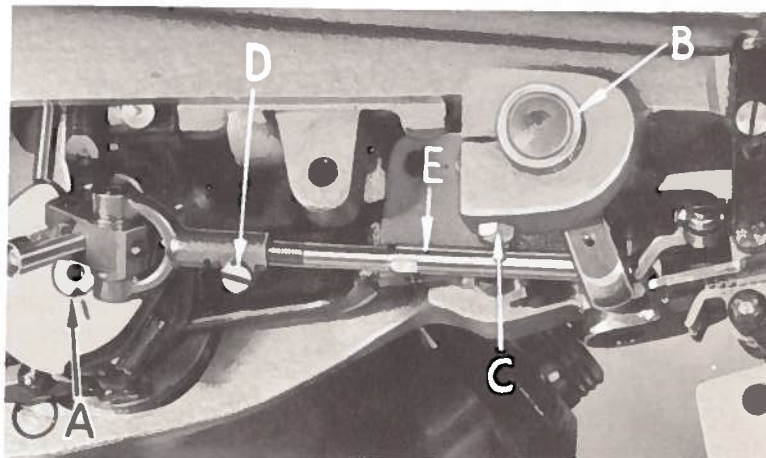

Fig. 6
Insert the looper in its holder so that the flat on its shank corresponds with flat on holder and so that there is 1/64 inch space between looper seat and holder (Fig. 6).
In the left end of the main shaft is a "V" groove, and on the looper crank, there is a timing line (A, Fig. 6).
The looper adjusting sleeve (B, Fig. 6) positions the looper laterally, and also provides a limited amount of vertical or height adjustment. Lateral adjustment is secured by loosening the clamp screw (C) and moving the adjusting sleeve in or out. Vertical or height adjustment is secured by turning the sleeve.